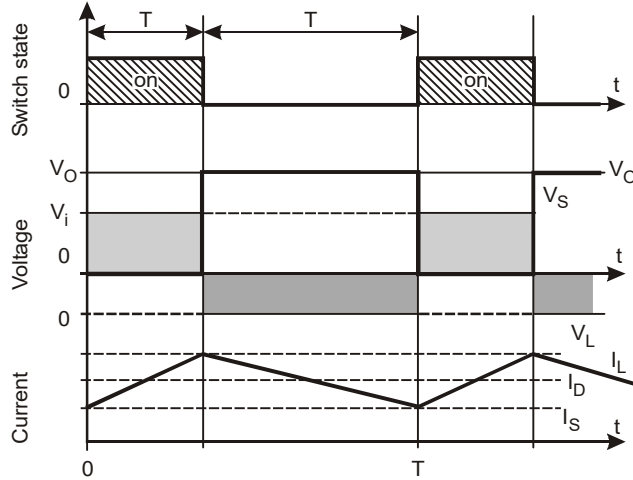

Fig. 5.13: Waveforms of current and voltage in a boost converter operating in continuous mode.
- A boost converter is said to be operated in continuous mode if the current through the inductor (I_L) never falls to zero during the commutation cycle. To describe the operating principle of boost converter in this mode, consider the plots as shown in Fig. 5.13.